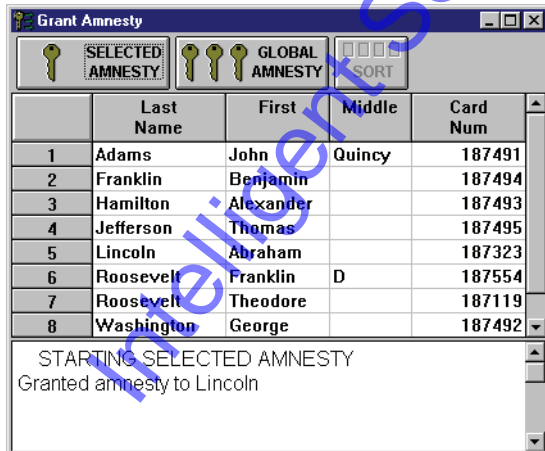

Figure 6-29: Results of Selected User Granted APB Amnesty
4. The result of the operation is then displayed in a results field at the bottom of the Grant Amnesty window (see Figure 6-29).